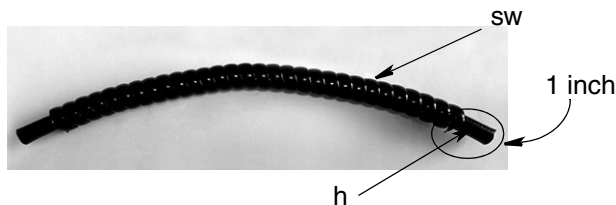

FIG. 89
2. Trim the spiral wrap (sw), leaving approximately 1 inch (25.4 mm) of the hose end unwrapped (FIG. 89).